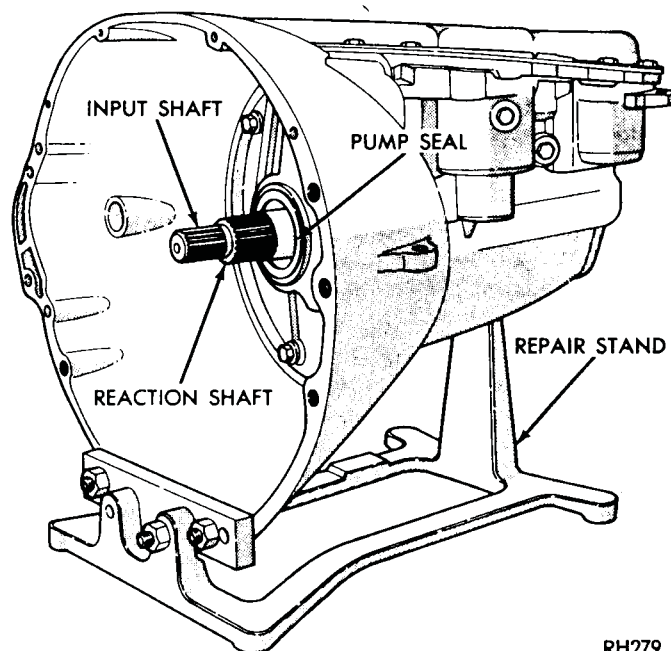

Fig. 6—Transmission in Repair Stand
(1) Place transmission assembly in repair stand, Tool C-3750-A (Fig. 6).
(2) Remove oil pan bolts and remove oil pan and gasket.